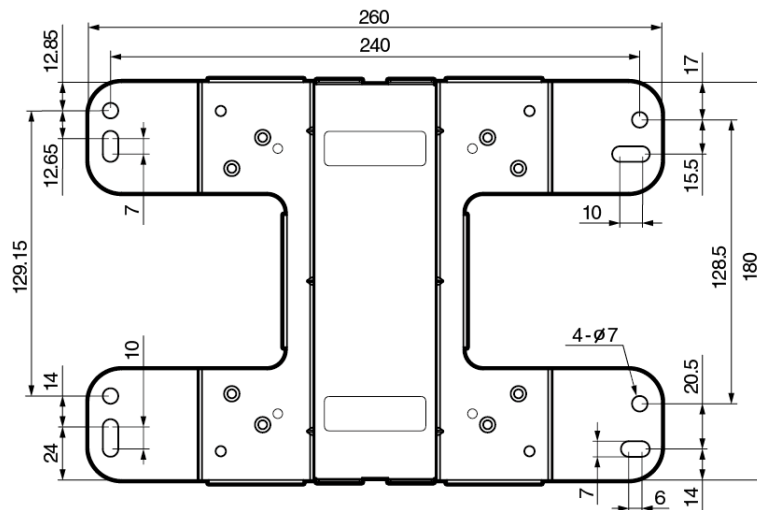

Figure 15. Base Plate Hole Dimensions
3. Using the mounting base as a template, mark four holes with a pencil. Refer to Figure 15 on page 48 for hole dimensions.